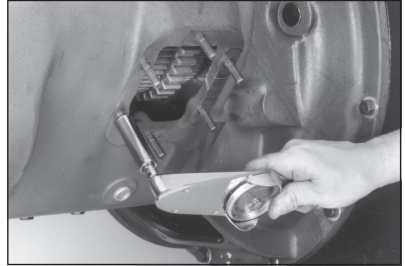

Fig. 6
6. Tighten studs securely and torque to 17-19 lbs. ft. (2.35-2.63 kg meters) for 6 bolt and 19-21 lbs. ft. (2.63-2.90 kg meters) for 8 bolt. **CAUTION: overtightening of studs may damage stud and/or transmission threads** (Fig. 6).